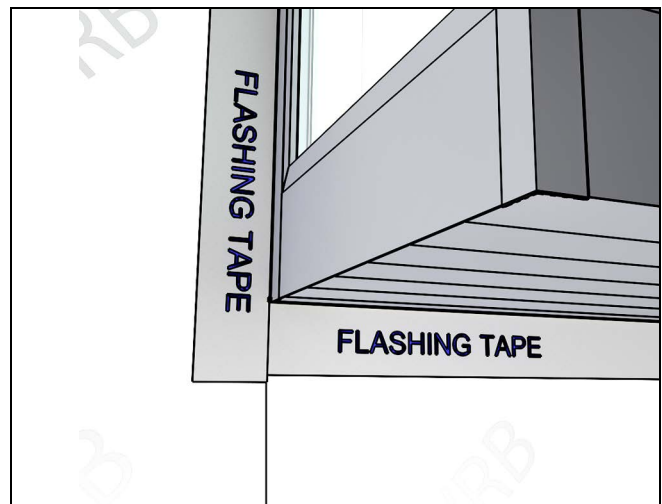

Figure 43
10. Using standard flashing detail. Install sill flashing, the jamb flashing, and finally head jamb flash to achieve weather board drainage path. See Figure 43.